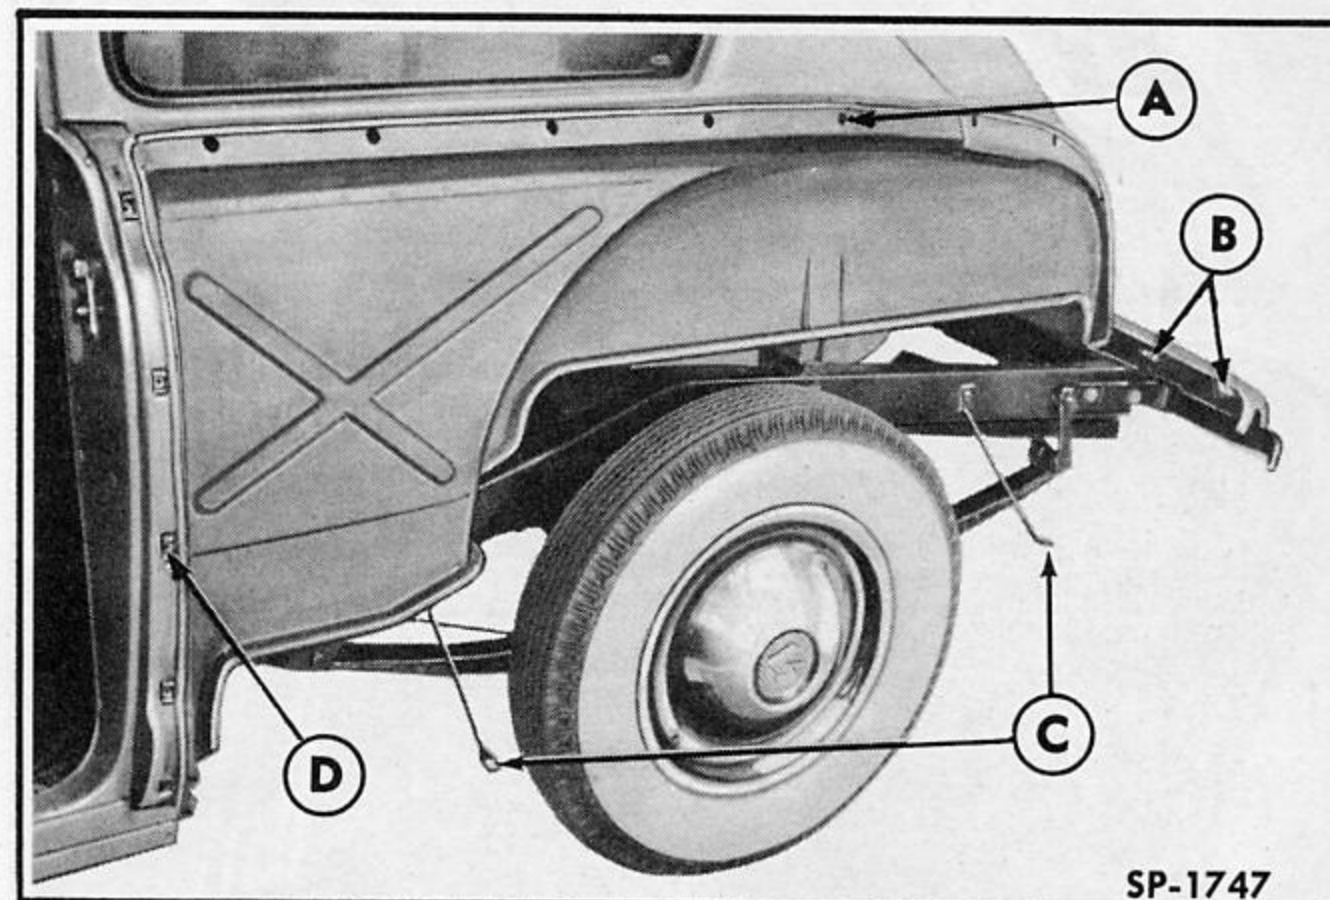

Fig. 244—Rear Fender Attaching Points
2. Remove rear quarter inside trim and rear compartment trim to allow access to attaching bolts at A in Fig. 244.
3. From inside body, remove upper attaching bolts and lockwashers at A in Fig. 244.
4. Remove rear stone deflector to rear fender screws at B in Fig. 244.
5. Remove bolts, nuts and washers attaching fender to braces C in Fig. 244.
6. Remove forward attaching bolts and washers at D in Fig. 244 and remove fender. NOTE: On right rear fenders, it is necessary to remove fuel tank filler neck cap.
7. To install the rear fender, clean off attaching surfaces and apply a ribbon of caulking compound on body as shown in Fig. 244. Also apply caulking compound around each upper hole A in Fig. 244 from inside body. Make sure speed nuts are on rear fender at upper attaching locations.